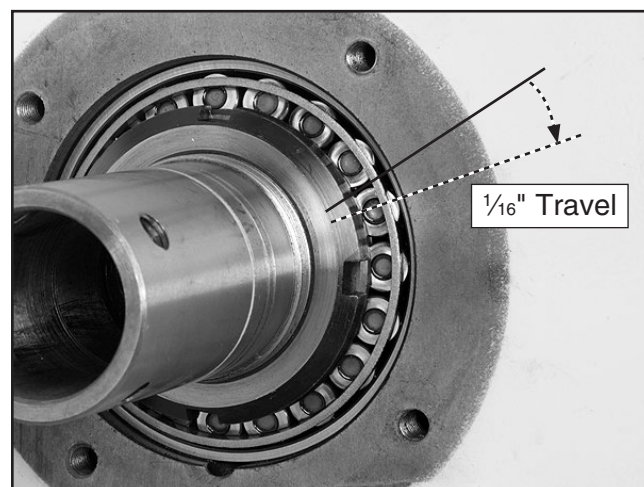

Figure 120. Final spanner nut rotation.
12. Tighten spanner nut an additional $\frac{1}{16}$ " along its circumference. See **Figure 120** for example of this measurement.